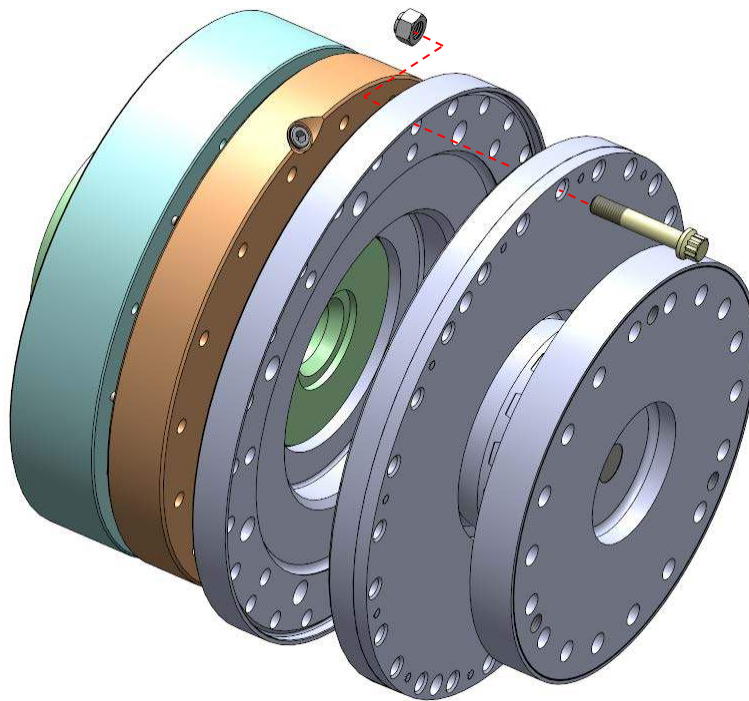

Figure 8 – Flex Assembly Installation on Hub Flange
4.1.1 Install one flex assembly onto the hub as shown in Figure 8 aligning the holes using Qty (4) bolts and nuts spaced 90 degrees apart. Tighten the bolts/nuts a few turns at a time in a criss-cross pattern to seat the pilot evenly. Install the remaining bolts and nuts and torque evenly in a criss-cross pattern to the torque shown on drawing HC-6483.